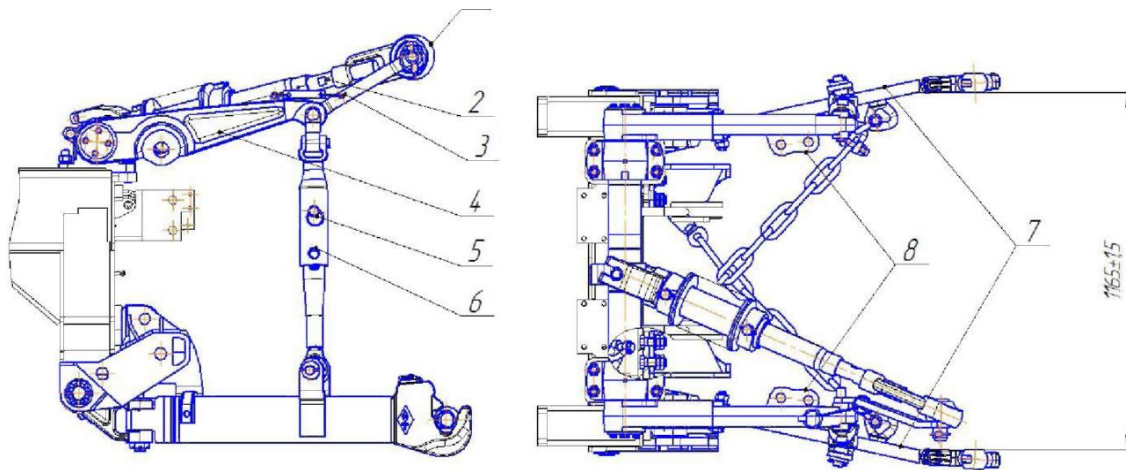

Fig. 26a Mounted implement
- c) lift lower links 7 (Fig. 26a) by means of hydraulic cylinders until the locks get operated;
In connecting mounted or semi-mounted agricultural machines and implements, the length of vertical strut 6 (Fig.26a) shall be minimum for ensuring the maximum traffic clearance.